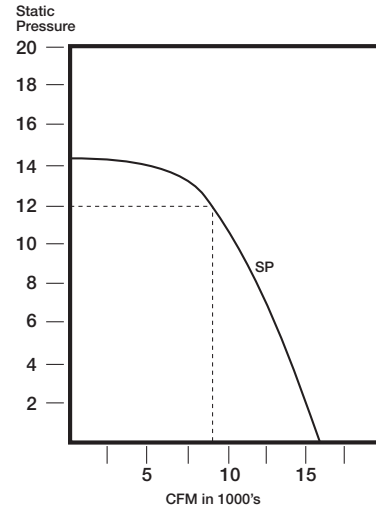

figure 1
**Figure 1** represents the performance for a given fan size and RPM. The flow scale is presented along the x-axis. The pressure scale is presented along the left y-axis. Find the required CFM and move vertically to the SP curve. Read horizontally to the left to read the pressure at that flow.